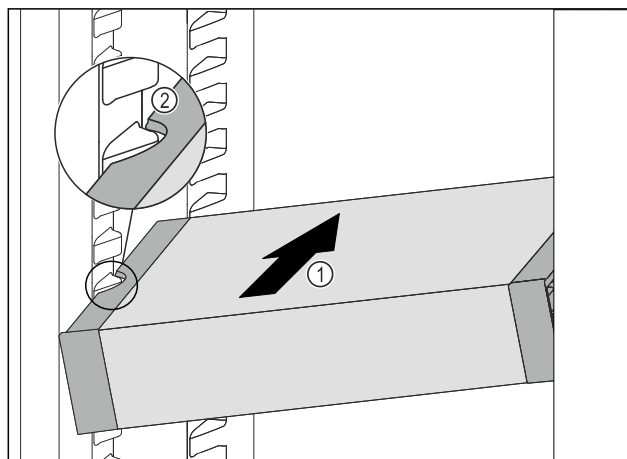

Fig. 121
- Insert the VarioSafe into the fridge section at an angle Fig. 121 (1) until the recesses in the side Fig. 121 (2) of the VarioSafe are at the level of the support rib in the fridge section.